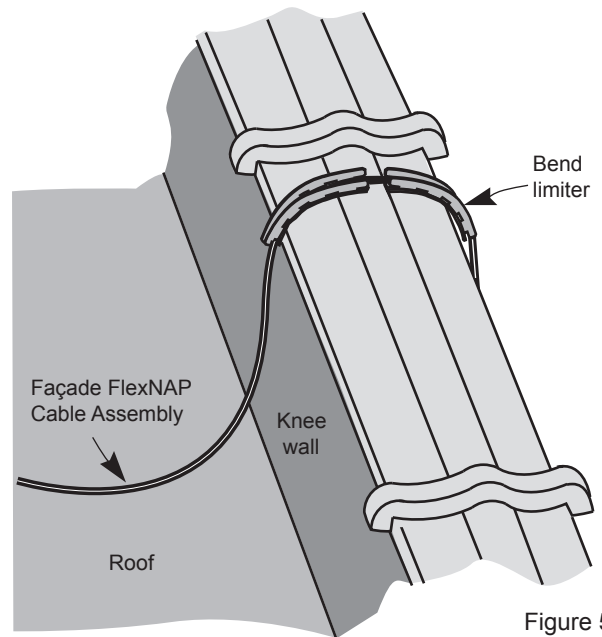

Figure 5
5.7 Place the bend limiters on the knee wall and position the cable across the knee wall in the grooves of the bend limiters (Figure 5). The bend-limiters have slots for cable ties which can be used to secure the cable in place.